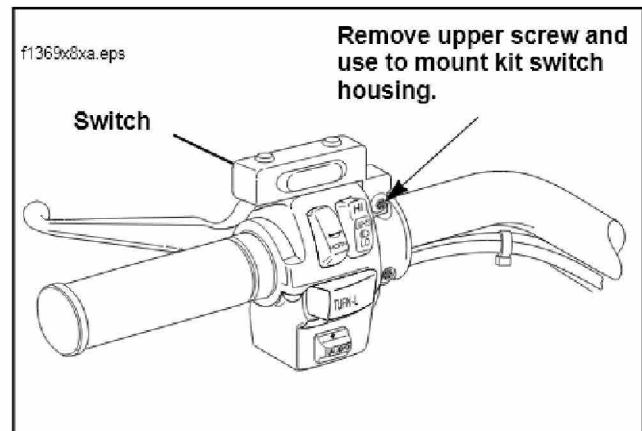
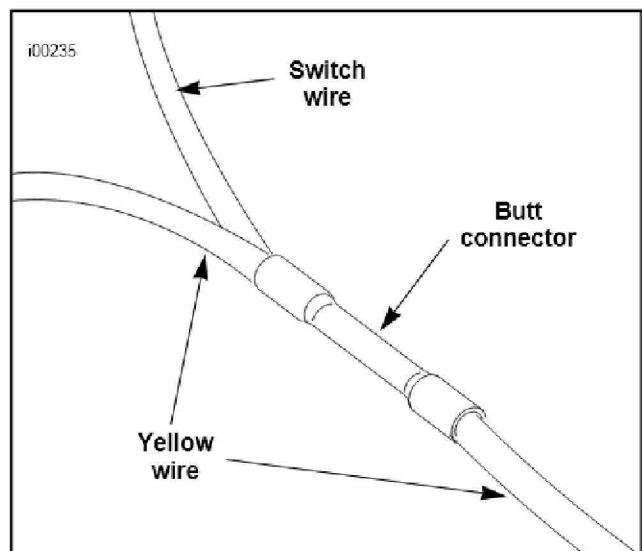

Figure 2. Fog Lamp Switch Mounting Location
Figure 3. Splicing Fog Lamp Switch Wire
2. See Service Parts Illustration and Figure 2. Mount fog lamp switch housing on left handlebar switch housing with top screw in housing. Route switch wires along underside of left handlebar to steering head. Secure wires to handlebar with cable straps from kit.
3. Refer to Service Manual and wiring diagram to locate the most accessible yellow (Y) wire that carries current for headlamp low beam filament.
4. See Figure 3. Splice fog lamp switch lead to yellow wire as shown. To achieve a good electrical splice perform the following: